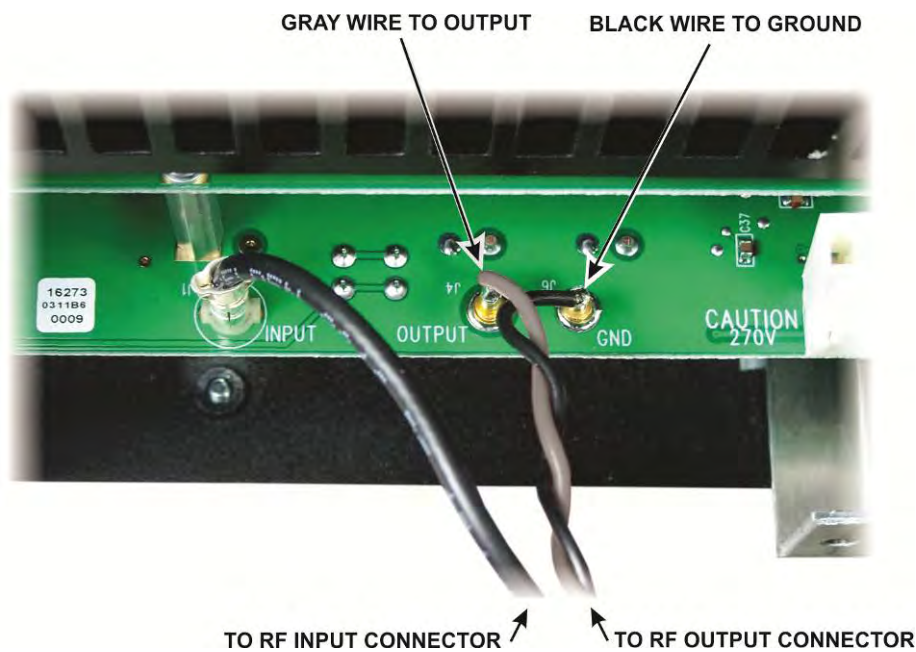

Figure 38. Connecting the RF INPUT and RF OUTPUT Cables to the PA/LPF Module.
□ Connect the RF INPUT coaxial cable and the RF OUTPUT twisted pair to the PA/LPF module as shown in Figure 38. The miniature (TMP type) coaxial connector is a friction fit. Insert the connector up to where it begins to widen to form the “ears” on either side.